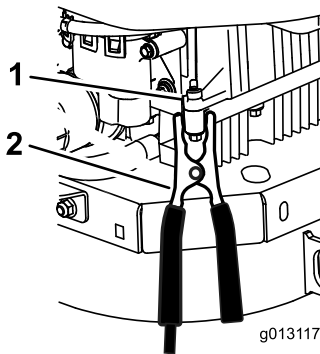

Figure 62
6. Make the final connection on the engine block of the stalled machine (not to the negative battery post), away from the battery, and stand back (Figure 62).